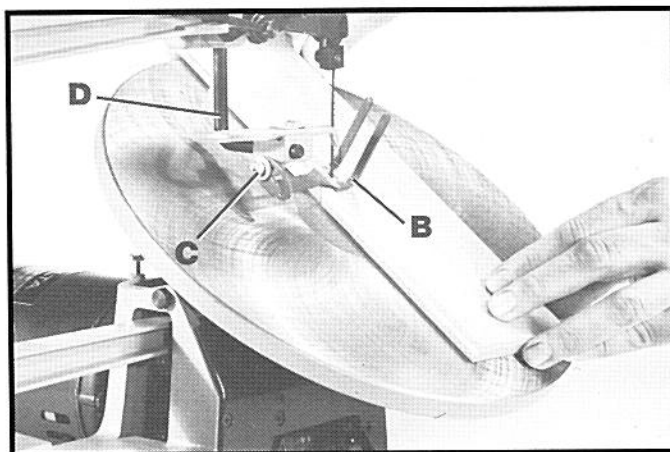

Fig. 32
When bevel cutting, the holddown (B) Fig. 32, can be adjusted to lay flat on the stock by loosening screw (C) and tilting the holddown (B) accordingly. Then tighten screw (C).